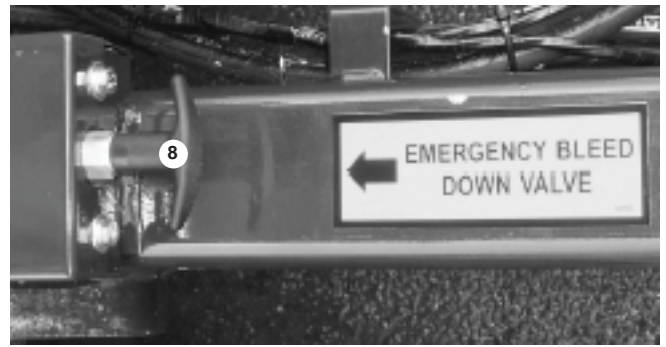

Figure 9.6 - Manual Bleed Down Control
- If the platform will not lower, the person on the ground will need to use the manual bleed down (8) (see figure 9.6) located at the front of the chassis. To lower the platform pull on the cable (8) until the platform is fully lowered.